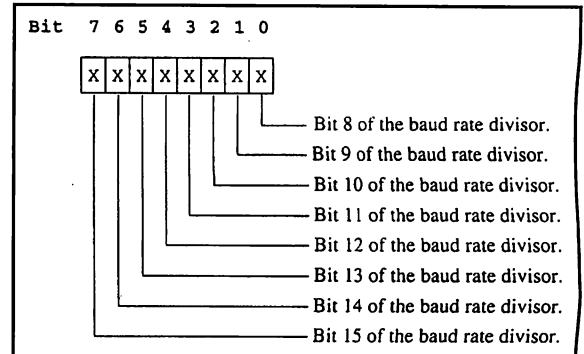

Fig. 14. Baud-Rate Divisor Register.
• **Baud-Rate Divisor Latch Register.** The high-order eight bits of the baud-rate divisor result are loaded into this register. The DLM shares 0x3F9, the IER, in the same way the DLL shares 0x3F8. This register is identical in the 8250 and 16550. Figure 14 describes this one.